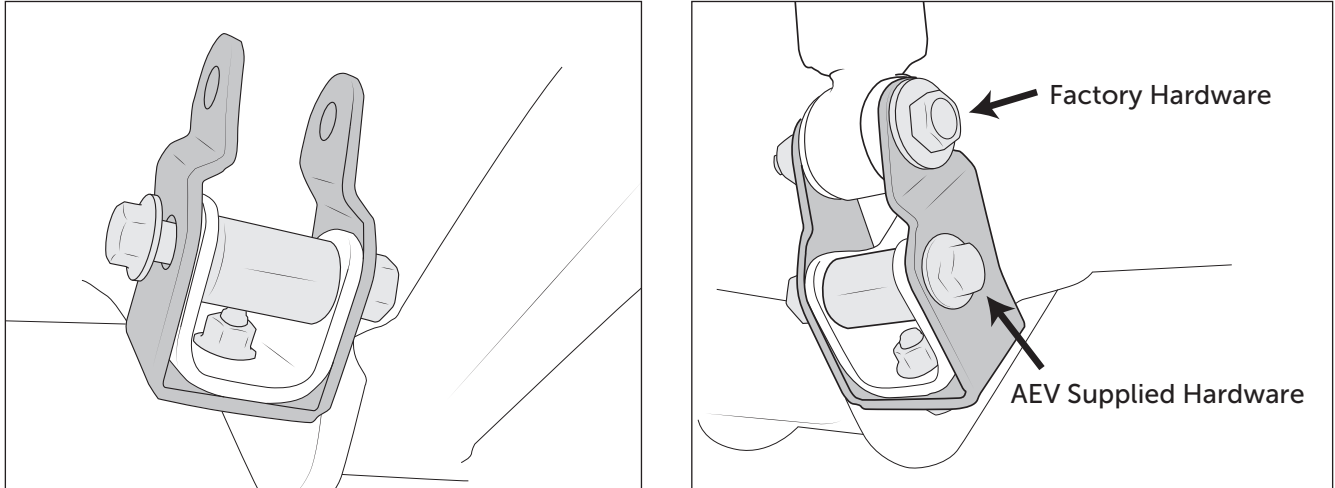

Figure 18
12. Install AEV shock extension brackets as shown, then re-install factory lower shock mount hardware (fig. 18). You may need to pull the shock body downward to reach the shock bracket. This is normal due to internal shock bumpers. NOTE: Due to variation in factory brackets, you may be required to enlarge the bottom hole slightly using a drill bit or round file.